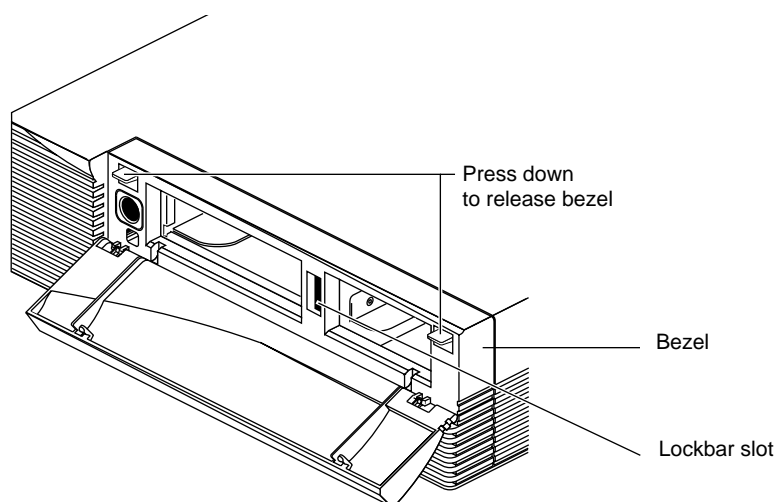

Figure 4-3 Releasing the Bezel
- Press down on the tabs on each side of the bezel, as shown in Figure 4-3.